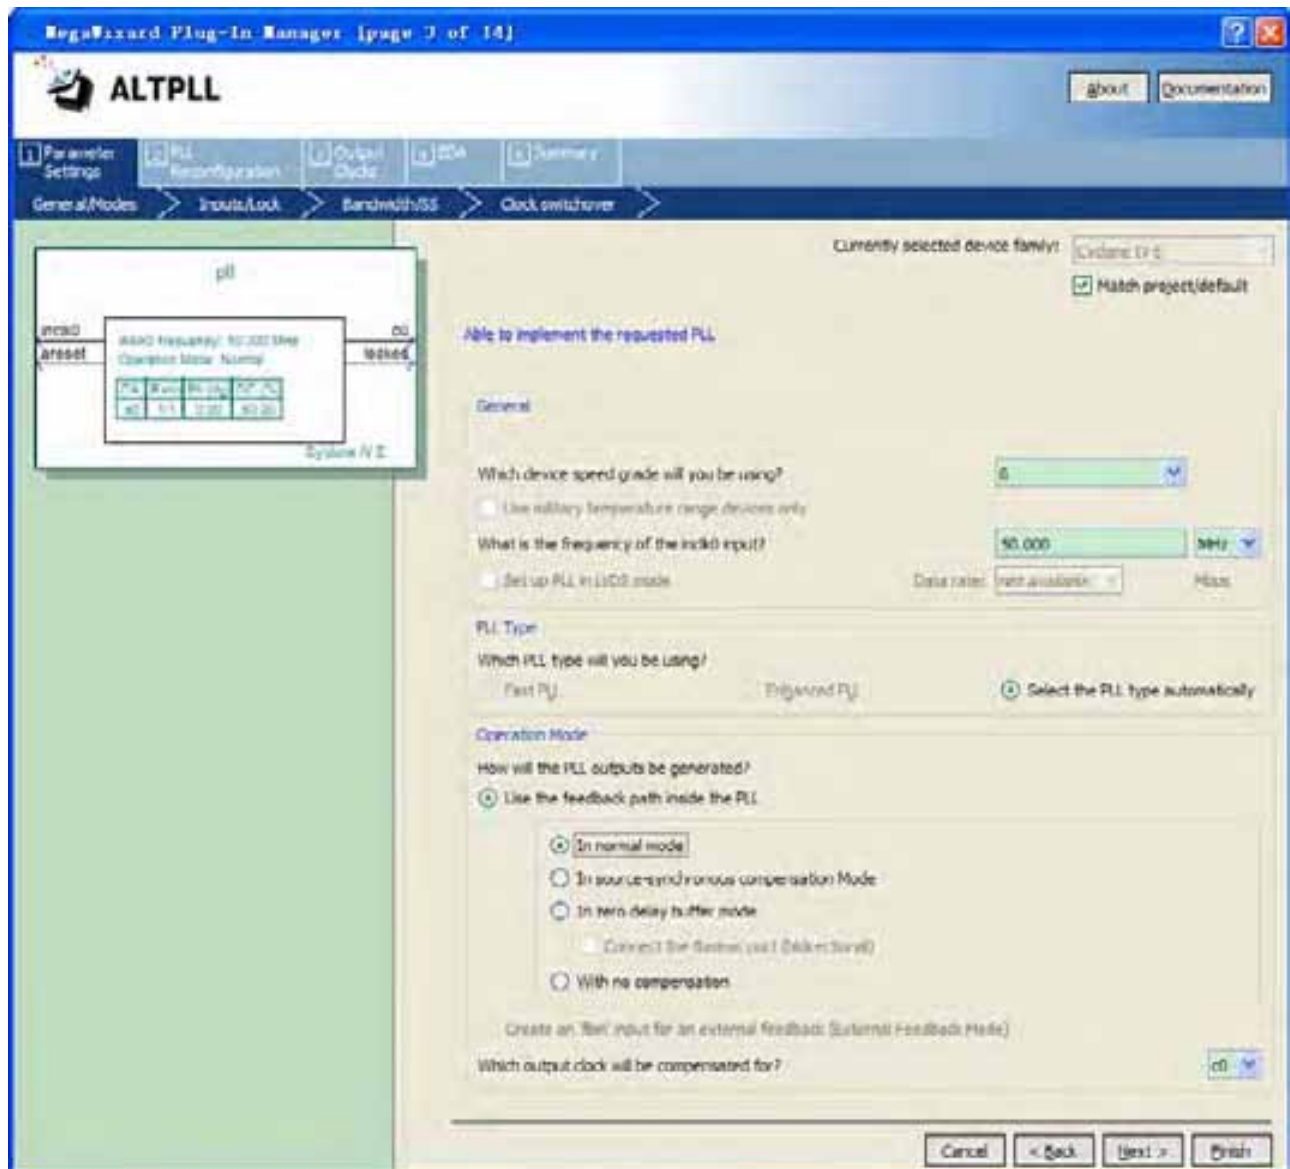

Figure 6-21 MegaWizard Plug-In Manager [page 3 of 14] Selections
5. In the MegaWizard Plug-In Manager [page 3 of 14] window, make the following selections (see **Figure 6-21**).